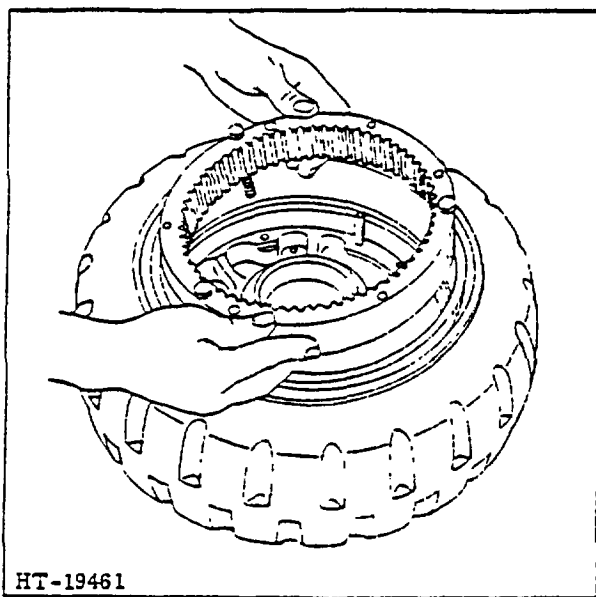
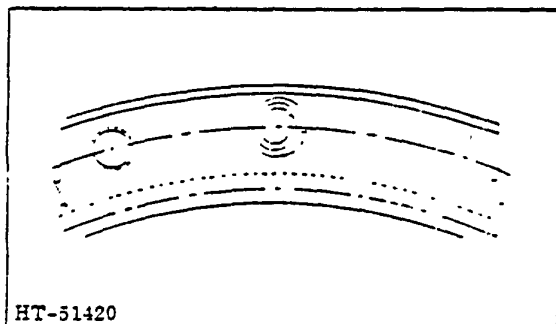

Figure 7. Bull Gear Removed
Figure 8. Spiral Pin Installation
- (1) Remove the three capscrews which bolt the bull gear to the inner side of the wheel.
- (2) Turn the wheel over and using standard, hardened capscrews with three inches of thread, insert in the holes provided in the bull gear. (Figure 7.)
- (3) Tighten the capscrews evenly until the bull gear is removed from the wheel bore.
- (4) Inspect the bull gear for any broken or worn teeth or cracks in the ring. Replace if damaged.
- (5) To prevent any damage to the bull gear when installing the spiral pins, the edge of the outer coil should lie on the bolt circle diameter as shown in Figure 8.